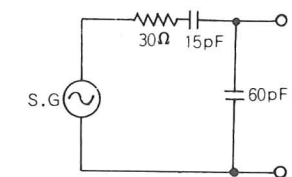

Fig. 11
3. During AM alignment, connect output of signal generator (modulated by 400 or 1,000 Hz 30%) to such a dummy antenna as shown in Fig. 11.
①	Low freq. end	87 MHz	C117
②	Repeat step ①
③	98 MHz	98 MHz	C104, C108
④	Repeat step ③
- Signal Generator.....Connect to antenna jack through a dummy antenna as shown in Fig. 11.